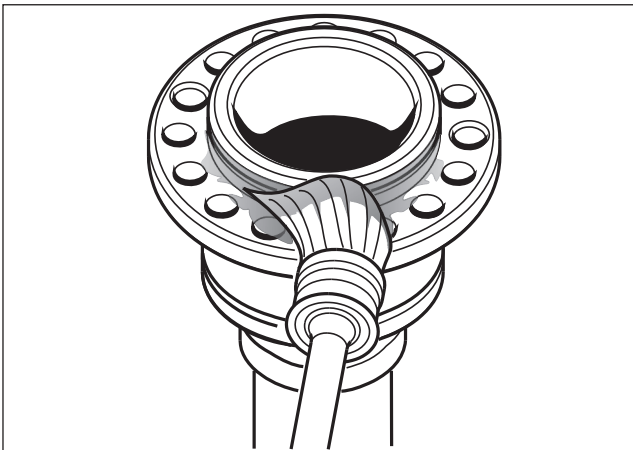

Fig. 3.6
6. Apply grease on the joint surface. - Fig. 3.6